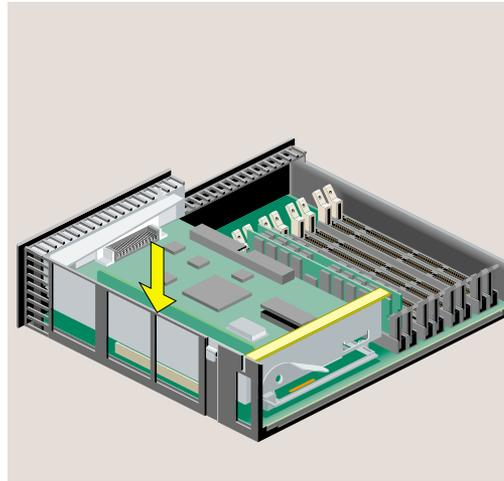

Figure 2-43 PCI Tray Seated Correctly
3. Push the tray down firmly until it is completely seated. You hear a click as it seats (Figure 2-43).